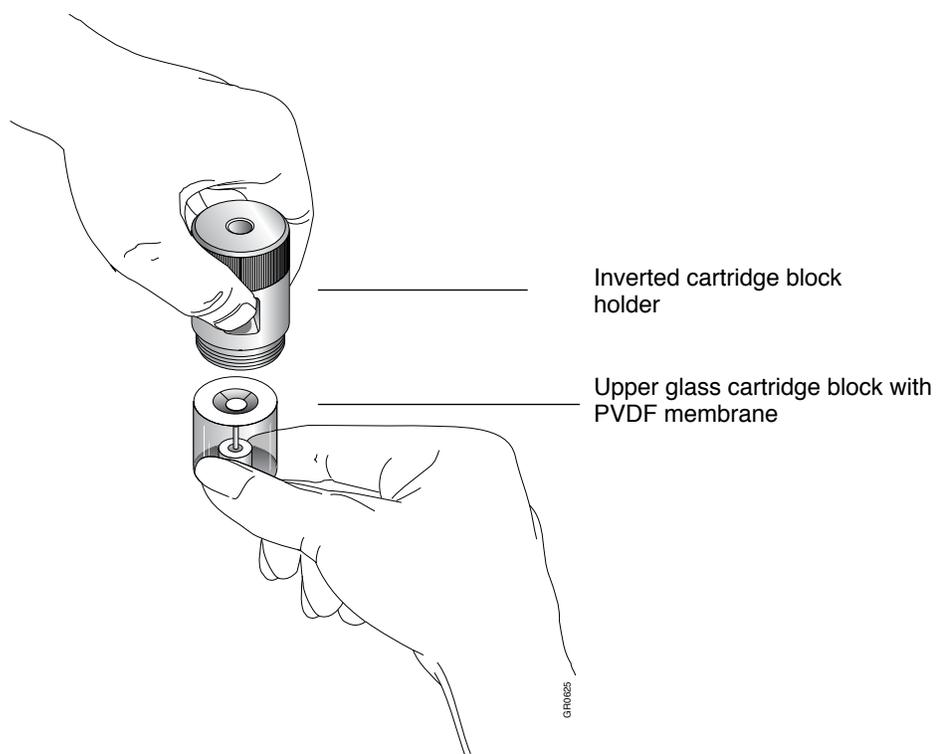

Figure 3-5 Slide the upper glass cartridge block with PVDF membrane up into the cartridge block holder
1. Hold the lower glass cartridge block and PROCISE cartridge seal in place inside the holder by placing your fingers in the cartridge block holder windows. Invert the holder as shown in Figure 3-5.
1. Hold the lower glass cartridge block and PROCISE cartridge seal in place inside the holder by placing your fingers in the cartridge block holder windows. Invert the holder as shown in Figure 3-5 on page 3-13.